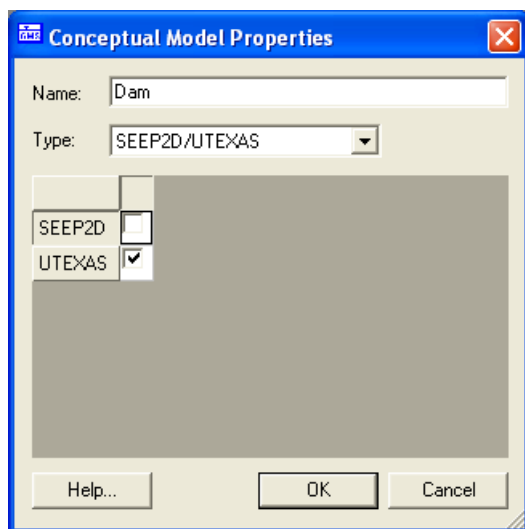

Figure 5. Creating a New Conceptual Model.
- In the *Conceptual Model Properties* dialog, change the *Name* to **Dam** and change the other options so they match the dialog shown in Figure 5 below. When you're finished, click *OK*.